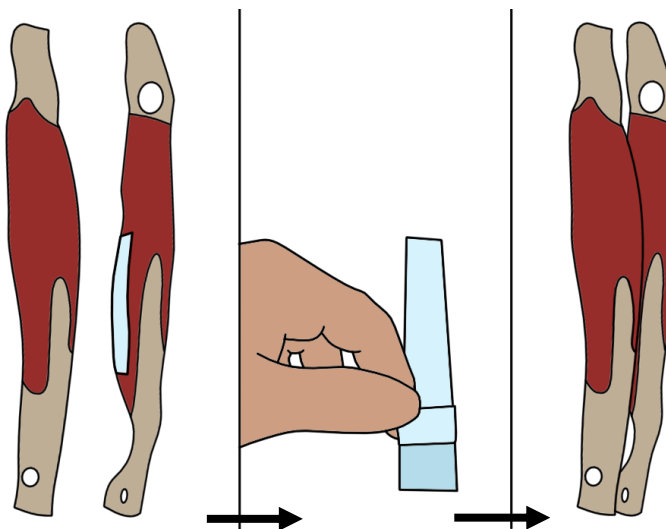

Figure 10. Adhering Muscle 3 and 4
- c. To adhere muscle #3 and #4 together (**Figure 10**), place a two-sided adhesive sticker below the superficial peroneal nerve on muscle #3. Once adhered to muscle, remove the remaining release liner, place muscle #3 and #4 side by side and adhere muscle #4 to #3.